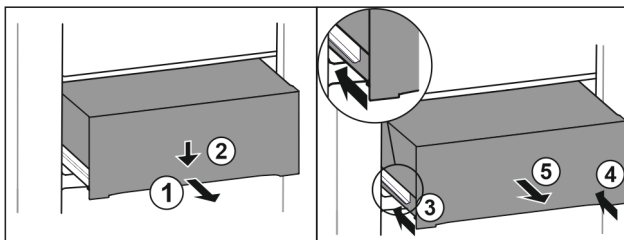

Fig. 101
- ▶ Pull out drawer half-way. Fig. 101 (1)
- ▶ Push the drawer down at the front. Fig. 101 (2)
- ▶ Push the left rail in by about 2 cm. Fig. 101 (3)
- ▶ Push the right rail in by about 2 cm. Fig. 101 (4)
- ▶ Remove drawer to the front. Fig. 101 (5)